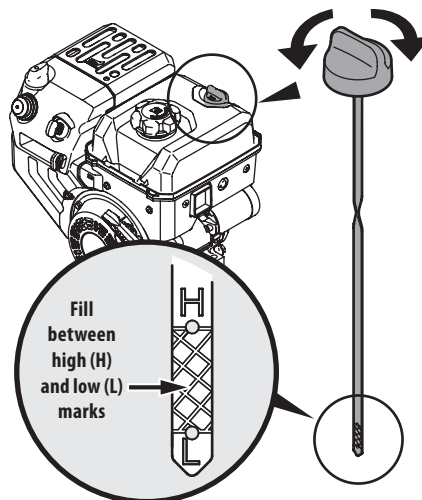
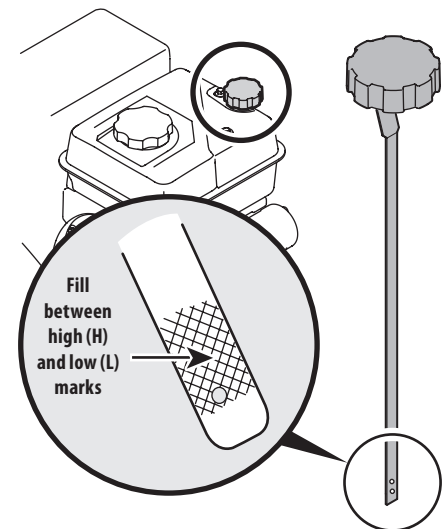

Figure 3-2
Figure 3-3
- Keep oil level between "H" and "L" marks on dipstick. See "Figure 3-2".
1. Remove the oil filler cap/dipstick and wipe the dipstick clean. See "Figure 3-2".
3. Remove the oil filler cap/dipstick. If the level is low, slowly add oil until oil level registers between high (H) and low (L), "Figure 3-2".
- Keep oil level between "H" and "L" marks on dipstick. See "Figure 3-3".
1. Remove the oil filler cap/dipstick and wipe the dipstick clean. See "Figure 3-3".
3. Remove the oil filler cap/dipstick. If the level is low, slowly add oil until oil level registers between high (H) and low (L), "Figure 3-3".
4. Loosen and remove the oil fill cap dipstick from the oil filler tube. Note the oil level, if oil reading on the dipstick is below the "L" mark, slowly add oil to reach the "H" level. See "Figure 3-2" or "Figure 3-3", whichever is applicable.